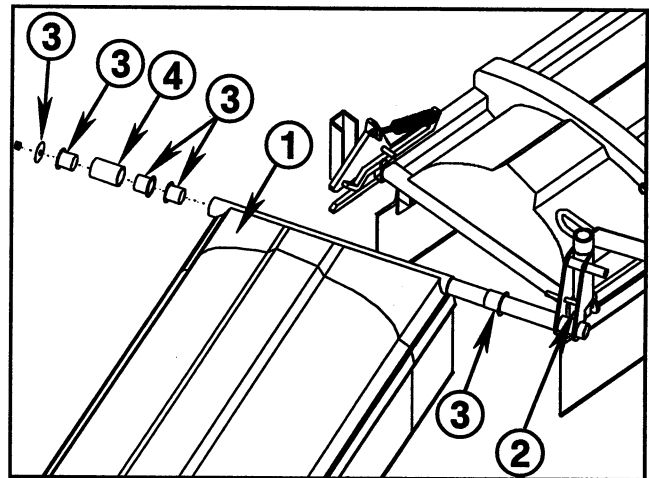

FIG. 5
2. Assemble (2) curved Castor Mounts into Right and Left Boom Extensions using (2) 1/2" x 3" carriage hd. bolts and lock nuts per arm, ensuring that bolt heads are on the "hood opening" side. Assemble (2) Wheels onto (2) Castor Forks with the short shafts using 3/4" O.D. x 6" bushings and 1/2" x 7-1/2" hex hd. cap screws. Assemble Castor Forks onto Castor Arms using 3/16" x 1-1/2" cotter pins. (Refer to Page 14)
3. Lightly grease Right and Left Boom horizontal pivots where bushings will rotate. Assemble Right and Left Booms onto Boom Center Section / Horizontal Pivot Joint as per FIG. 5 ensuring that bushings are properly seated. Torque the (2) 1/2" x 3/4" hex hd. cap screw wing retainer lock nuts to 25 ft. lbs.
4. Assemble (2) Anti-scalp Castors onto back outer mount on Right and Left Booms using (2) 7/16" lock nuts.